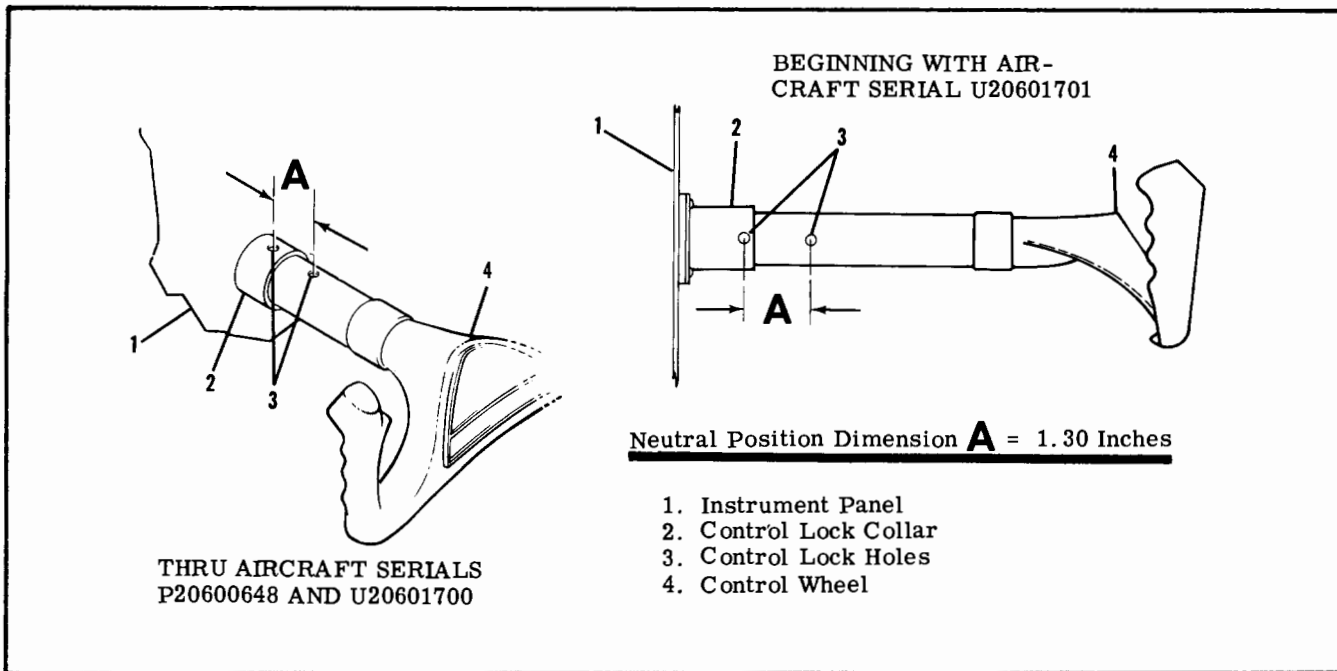

Figure 8-5. Control Column Neutral Rigging Position.
- a. Lock control column in neutral position. (Refer to figure 8-5)